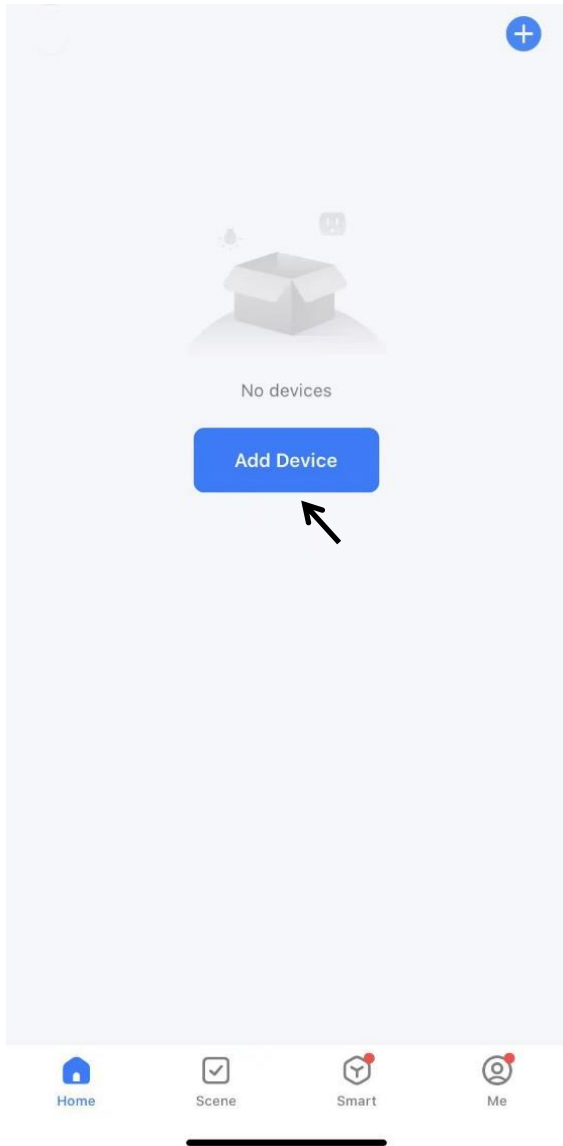

Fig.1
- The unit shall be installed on a flat surface where the air outlet would not be blocked. The required distance around the unit should be at least 30cm. **(Fig.1)**
2. Sign up or log in to your account on the APP. Tap the "+" at top right corner or button "Add Device" to add your device. (Fig.1)